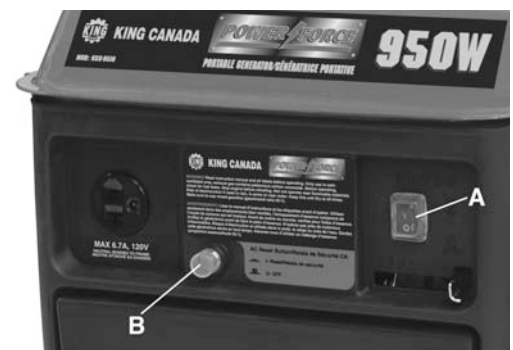

Figure 1
- 1) To turn generator "ON". Toggle switch (A) Fig.1 to the "ON" position. The engine can now be started.
The AC breaker turns off automatically when the load exceeds the generator rated output. Press the AC reset button (B) Fig.1 to reset the breaker. **Caution:** Reduce the load to within specified generator rated output if AC breaker turns off.